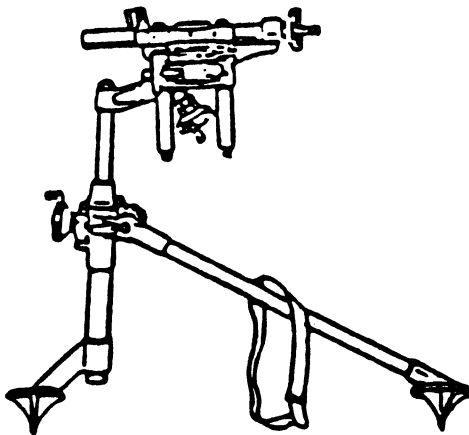

Fig 1-3. M177 Mount.
b. The M177 mount (fig 1-3) is composed of three main assemblies: the leg assembly, the traversing gear assembly and the barrel clamp assembly.